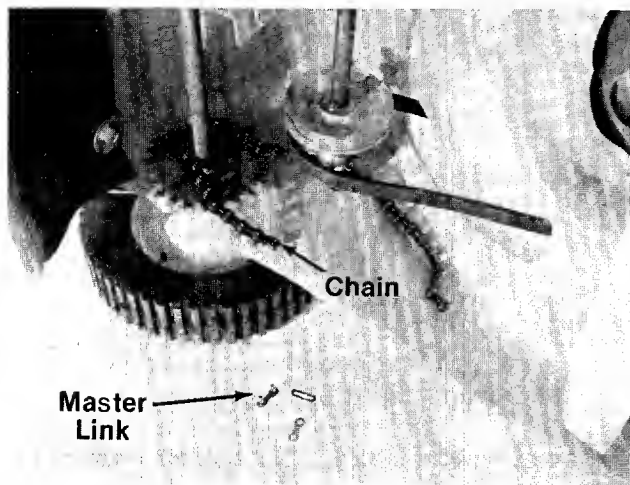

FIGURE 29.
9. Remove the master link from the chain. See figure 29.